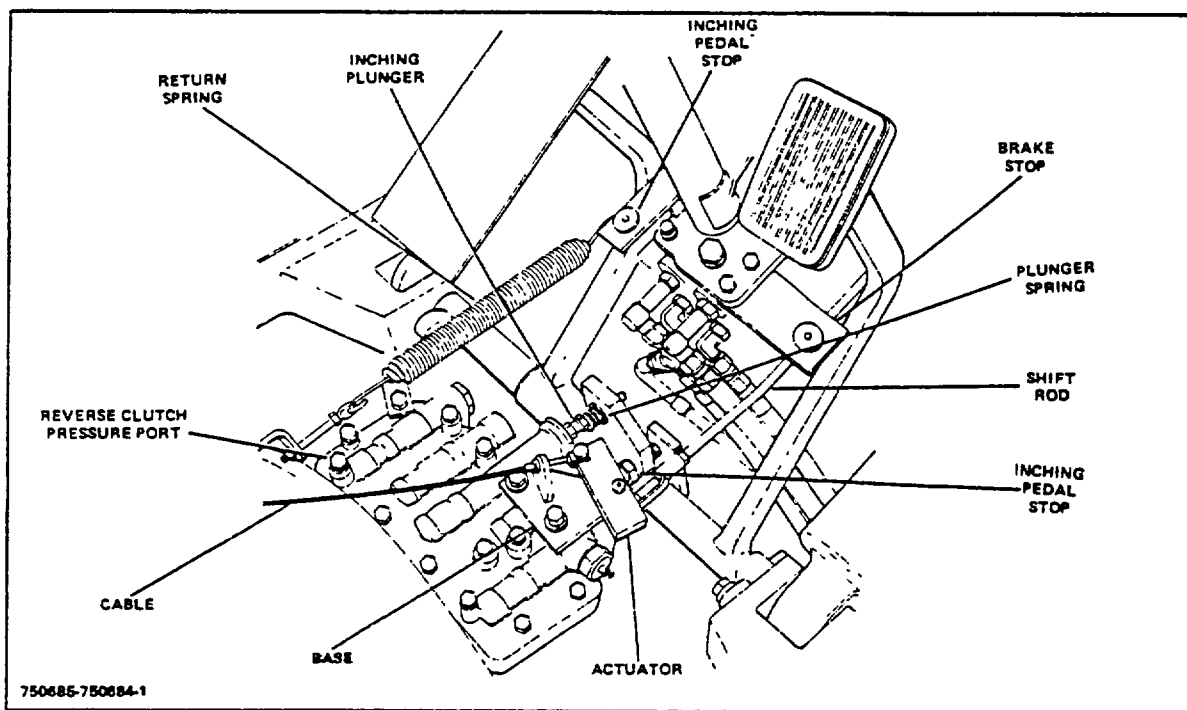

Figure 2-2. Inching Pedal Assembly
3. Adjust inching pedal return spring (Figure 2-2)